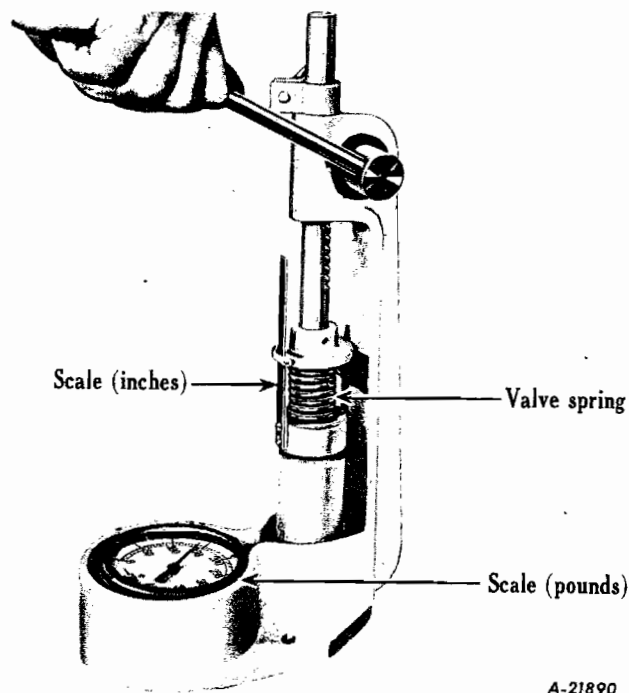

Fig. 13 - Testing valve springs in SE-1565 Valve Spring Testing Tool.
2. Test valve springs (Fig. 13). Test tension of each valve spring at valve open length with a valve spring tester. Check inner valve springs at 1-1/2" length, replace if pressure is less than 86 pounds. Test outer spring at 1-45/64" length, and replace if pressure is less than 136 pounds.